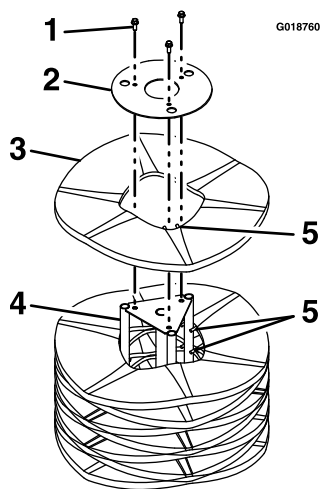

Figure 35
5. Stand the broom core assembly on end so that the removable end retainer plate faces upward (Figure 35).
- Remove and retain the hardware from the end-retainer plate (Figure 35).
- Install the new segment(s) by staggering the metal ring alignment fingers as shown in Figure 35.